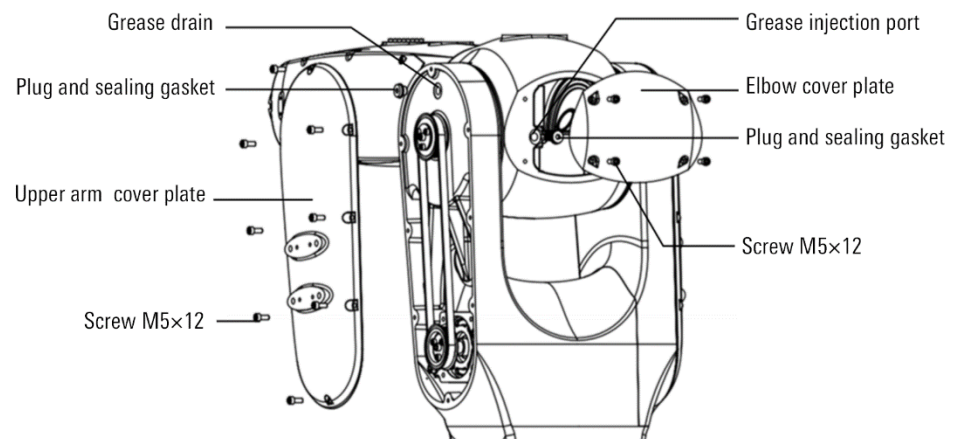

Figure 12-6 Replace J3 axis reducer grease
- Step5. Remove the grease outlet M10x1 plug, as shown in Figure 12-6.